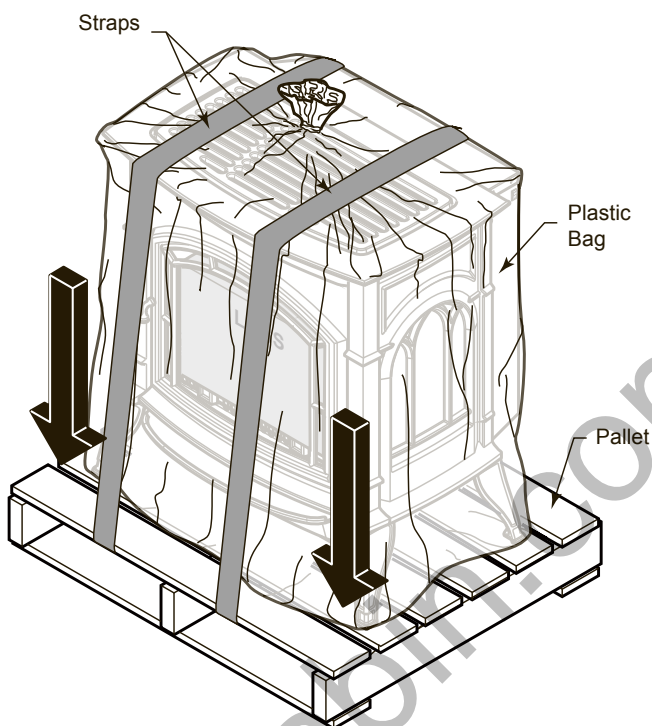

Figure 6 -
1. Remove two (2) straps. *Figure 6*